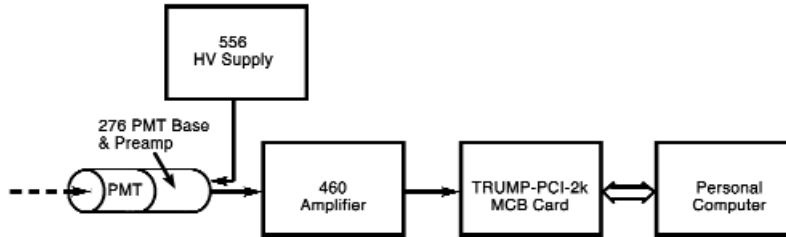

Fig. 5. Pulse-Height (Charge) Spectroscopy with a Photomultiplier Tube.
- Conventional photomultiplier tube (Fig. 5).